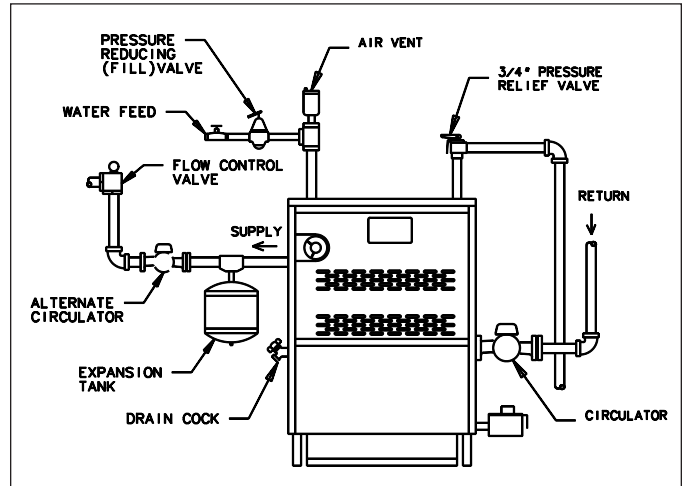

Figure 10. Piping arrangement
- A. Packaged water boilers are equipped with a water circulating pump, mounted to return the water into the boiler. For some installations, the pump should be on the supply main. See figure 10.
- A. **DIAPHRAGM-TYPE COMPRESSION TANKS** are used to control system pressure in an **AIR ELIMINATING SYSTEM**: an automatic air vent is used to **REMOVE** air from the system water. See figure 8. If system pressure needs further control, add an additional tank or install a larger capacity tank. Locate the tank near the boiler, as illustrated. An automatic air vent should be installed in the top of the boiler or air purger. See figure 10.